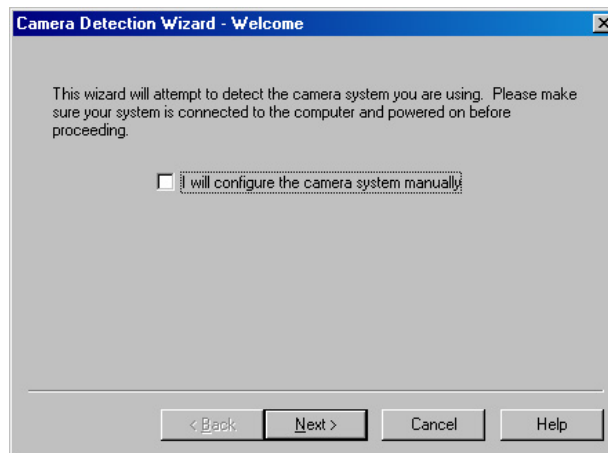

Figure 9. Camera Detection Wizard - Welcome dialog box
3. On the **Welcome** dialog (Figure 9), leave the checkbox unselected and click on **Next**.